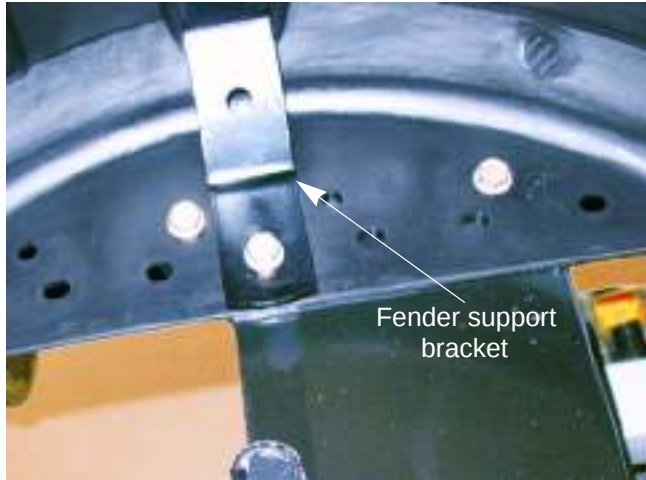

Figure 7.9
2. Remove the screw that passes through the fender support bracket and fender, threading into the tank. See Figure 7.9.